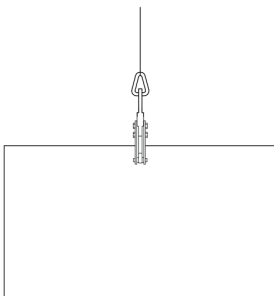
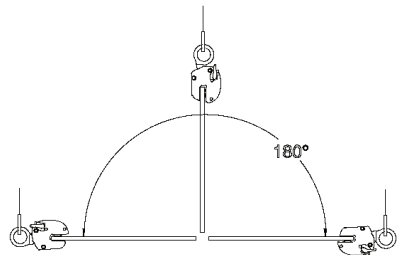

Figure 1
Figure 2
- 4. The VL series clamps may be used to lift material from a vertical position (Fig. 1) or from horizontal to vertical to horizontal through a 180° arc (Fig. 2).